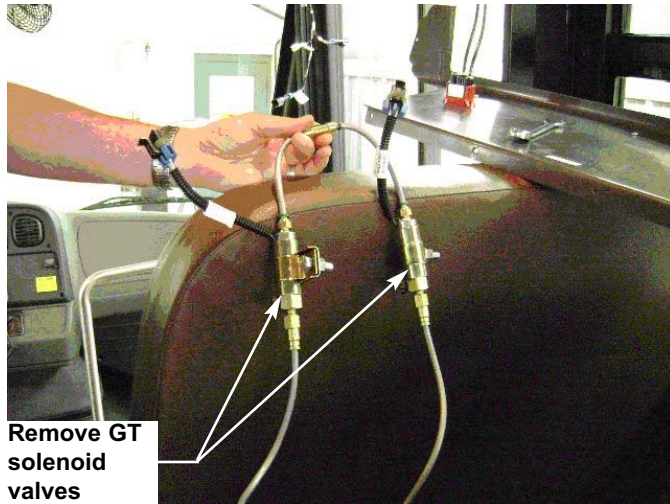

Figure 9
- 2.3 Remove solenoid valves. **Figure 1 and Figure 9**